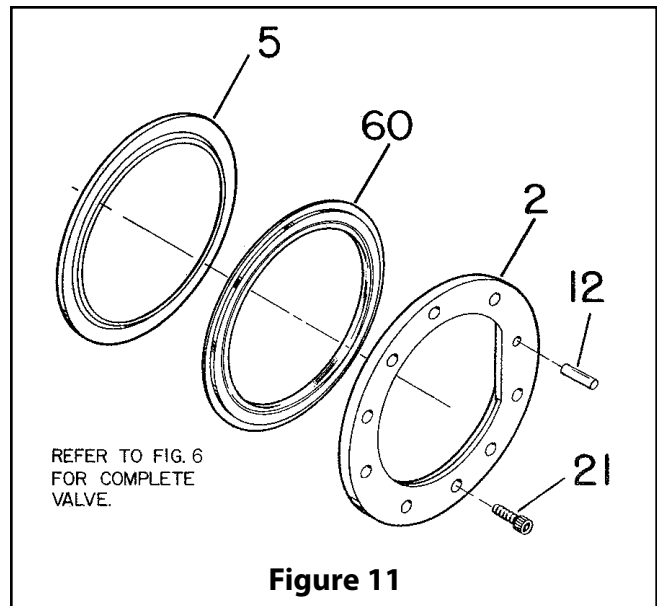

Figure 11
2. Remove the insert screws (21) and the insert (2), see (Fig. 11). If the insert does not lift out easily, tap it out from the shaft side using a wooden or plastic rod and a hammer. Don't strike the valve directly with a hammer.
3. Remove the metal sealing ring (60) and the soft seat (5). Discard the soft seat.
10. Verify that the disc is in the level position. Install new soft seat, sealing ring, and insert. See (Fig. 11). Note: A gasket is also required on 3", 4", and 12" sizes, see step #11). Install the insert screws, and tighten them uniformly. Check the gap between sealing ring and disc using feeler gages. The gap must not vary more than .008 when checked at six spots equally spaced on disc.